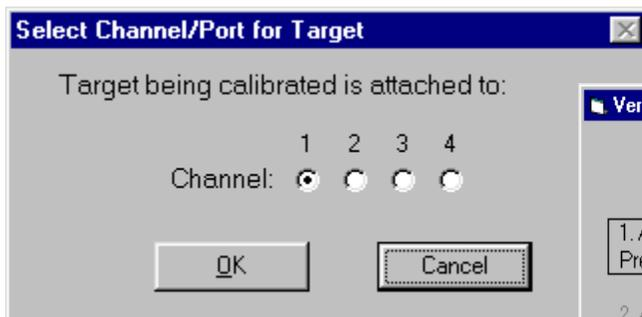
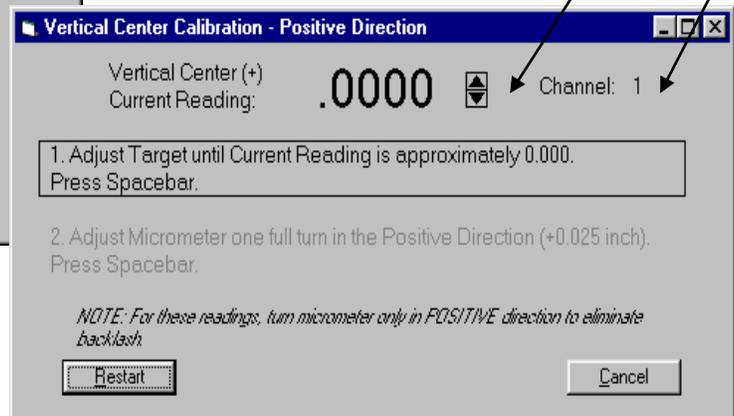

Figure 21 – Channel/Port Selection Screen
Figure 22 – Calibration Screen
The Select Channel/Port for Target menu displays (see Figure 21). Select the channel or the port to which the target is attached and click **OK**. The Calibration Screen displays and indicates the Port or Channel selected (see right arrow in Figure 22).
- The double arrows next to the reading are visible only in Manual Data mode and are not available when actual targets are being read (see left arrow in Figure 22).
- 1. For the first reading, (in this case V+), center the target using the centering micrometer. This corresponds to Step 1 on the Calibration Screen (see Figure 22).**
1. **For the first reading, (in this case V+), center the target using the centering micrometer. This corresponds to Step 1 on the Calibration Screen (see Figure 22).**